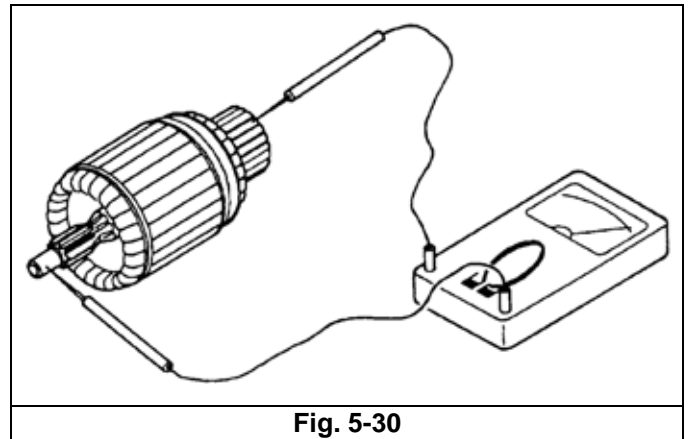

Fig. 5-30
- b. Inspect armature coil for ground with a circuit tester (page 5-15, Fig. 5-30). Replace grounded armature.